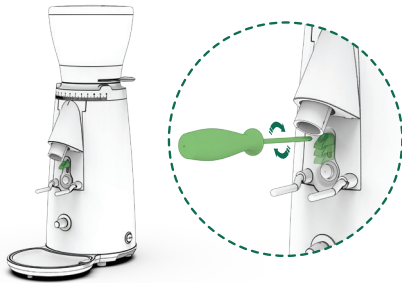

Fig. 4
1. Loosen the screw on the upper support (10) by using a #2 Phillips screw driver.
3. Tighten the screw with the #2 Phillips screw driver (Fig. 4).